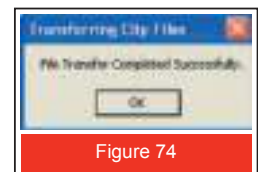

Figure 74
- When the transfer process is complete, a message box will be displayed as Figure 74 shows.